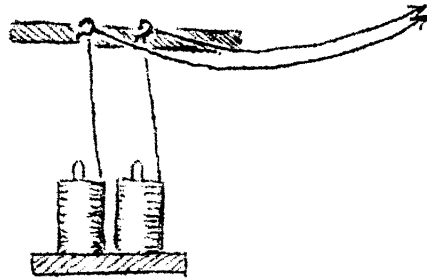

Fig.1
1. Warping. Warp directly from tubes (better avoid skeins) without rewinding on bobbins. If the outer layer of a tube is worn out better save the first once or so of the yarn for weft. The tubes can be placed on a rack, but the warping will be faster if they are set vertically in a simple stand on the floor (fig.1). Two screw-eyes should be fixed in a bench or table directly above the stand. That is, if you warp two ends at a time, which is probably the easiest. If you have four or more, you will need more pegs in the stand and more screw-eyes in the bench. Each thread goes from the tube through the proper eye to the warping reel or frame. All tubes should unwind in the same direction.